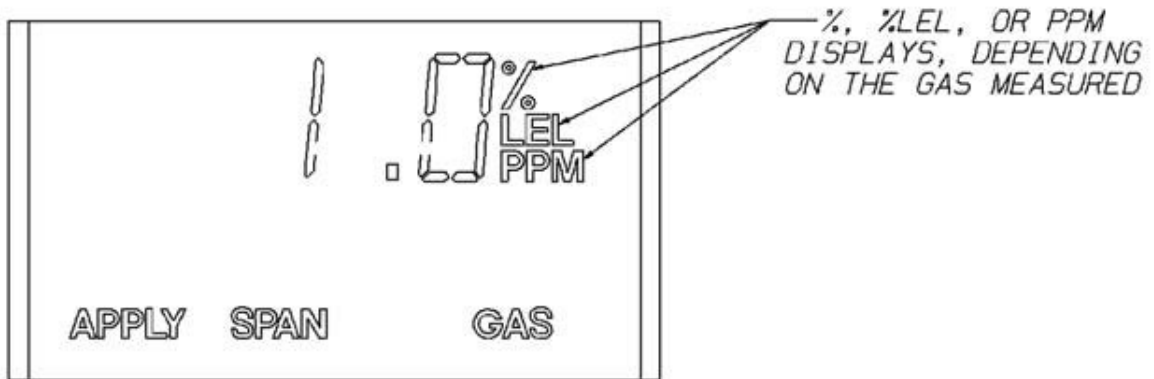

Fig. 25 Apply SPAN Gas Flag
(5) During a regular calibration, the Ultima X Series Gas Monitor automatically begins the span countdown after a successful zeroing of the unit. The span countdown is 30 seconds (Fig. 25).